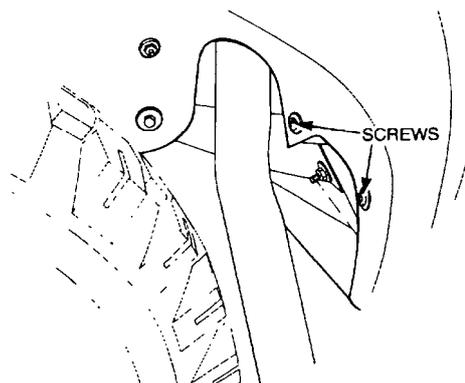

Figure 96 Mudguard-to-toe Board Removal
- o. Remove the screws and washers securing the inner guard to the toe board bracket (Figure 96).